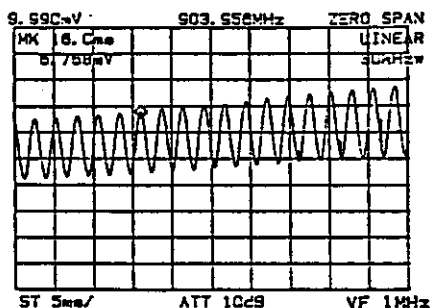

Figure 5-5 Reading the Time Display of Marker
- ⑨ Press the **CTR FREQ** key and turn the  to adjust the signal level to make it the maximum.
- ⑩ Press the **TRIGGER** key and set the trigger mode to VIDEO.
- ⑪ Press the **SAMPLE DET** key and set the sweep time to a value that can be observed easily.
- ⑫ Press the **MARKER** and turn the  to set the marker to the peak of the modulation signal. Keep recording the time indication of the marker at this time (Figure 5-5).